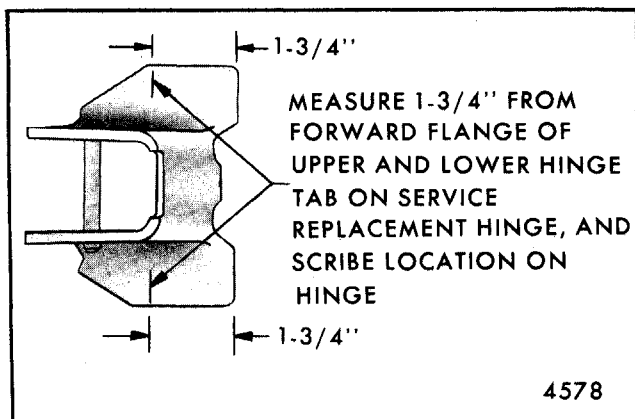

Fig. 5-103-Body Side Hinge Strap Installation - X Styles
1. Measure 1-3/4" rearward from upper and lower weld tab forward flange of replacement hinge, and mark dimension on hinge as shown in Figure 5-103.